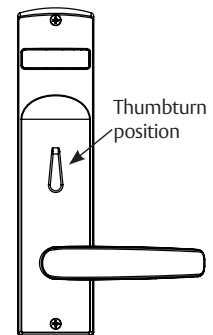

Figure 5
- For thumbturn indicators, make sure thumbturn is positioned in 12 o’clock direction as shown. (Figure 5)